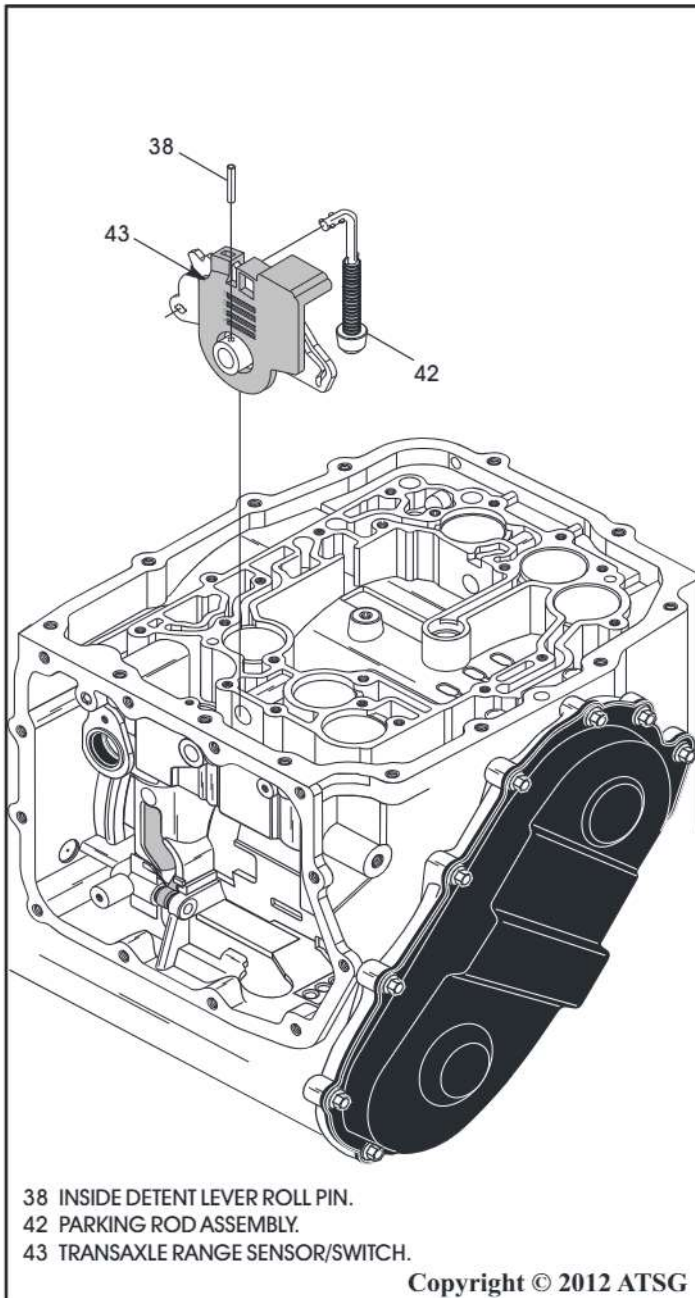

Figure 58
33. Remove the Transaxle Range Sensor/Switch and inside detent lever, as shown in Figure 58.
34. Separate the parking rod from the inside detent lever, as shown in Figure 58.